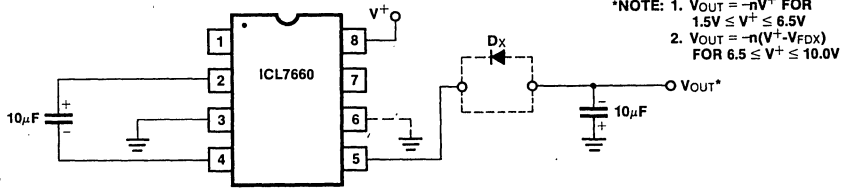
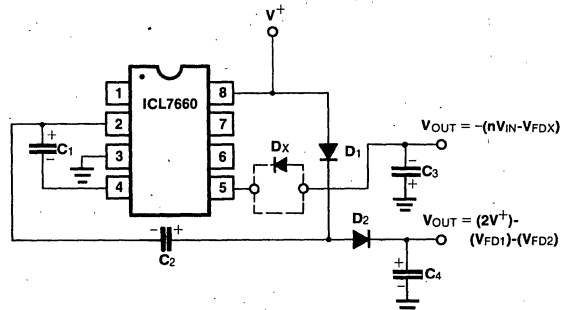

Figure 4: Simple Negative Converter
Figure 10: Combined Negative Converter and Positive Multiplier
The majority of applications will undoubtedly utilize the ICL7660 for generation of negative supply voltages. Figure 4 shows typical connections to provide a negative supply where a positive supply is available. A similar scheme may be employed for supply voltages anywhere in the operating range of +1.5V to +10.0 volts, keeping in mind that pin 6 (LV) is tied to the supply negative (GND) only for supply voltages below 3.5 volts, and that diode Dx must be included for proper operation at higher voltages and/or elevated temperatures.
The output characteristics of the circuit in Figure 4 are those of a nearly ideal voltage source in series with 70 ohms. Thus for a load current of -10mA and a supply voltage of +5 volts, the output voltage will be -4.3 volts. The dynamic output impedance due to the capacitor impedances is $1/\omega C$ where
Figure 10 combines the functions shown in Figures 4 and 9 to provide negative voltage conversion and positive voltage multiplication simultaneously. This approach would be, for example, suitable for generating +9 volts and -5 volts from an existing +5 volt supply. In this instance capacitors C₁ and C₃ perform the pump and reservoir functions respectively for the generation of the negative voltage, while capacitors C₂ and C₄ are pump and reservoir respectively for the multiplied positive voltage. There is a penalty in this configuration which combines both functions, however, in that the source impedances of the generated supplies will be somewhat higher due to the finite impedance of the common charge pump driver at pin 2 of the device.